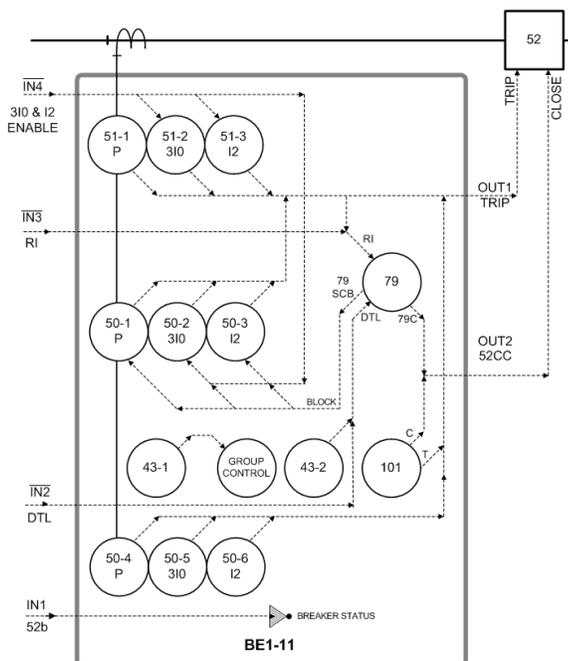

Figure 1 - One-Line Diagram of Overcurrent Protection with Control
This guide is a walkthrough of the *Overcurrent Protection with Control* BESTspace and logic scheme. The logic scheme provides protection for the system represented by the one line diagram shown in Figure 1. The logic scheme contains three time overcurrent and a total of six instantaneous elements. Automatic reclosing is included and is initiated (RI) by a protective trip
To begin, launch BESTCOMSPPlus and click on the 'File' dropdown menu at the top left-hand corner of the window. Select to open a new BE1-11 file as shown in Figure 1.